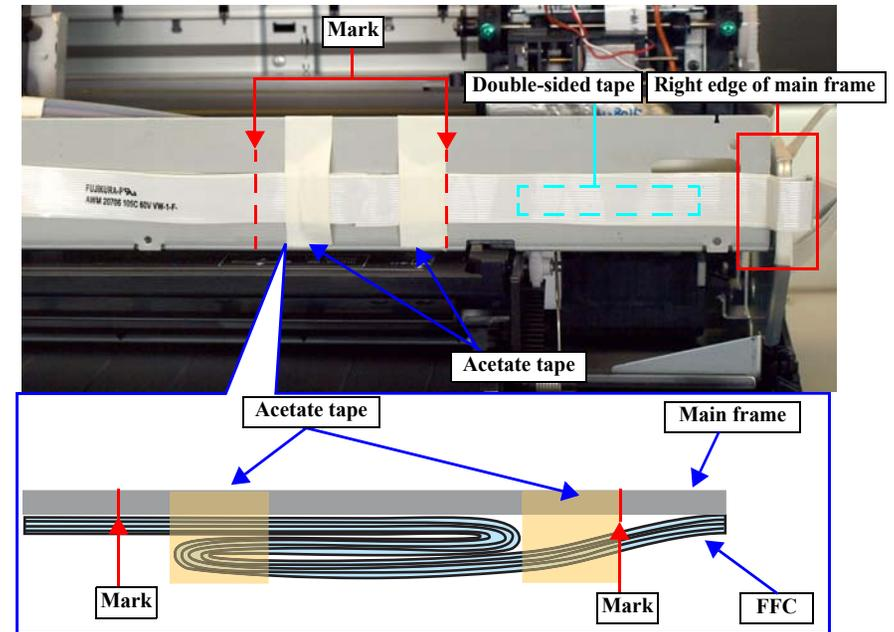

Figure 4-120. Securing the FFC
23. Secure the FFCs with acetate tape on the position shown in *Figure 4-120*.